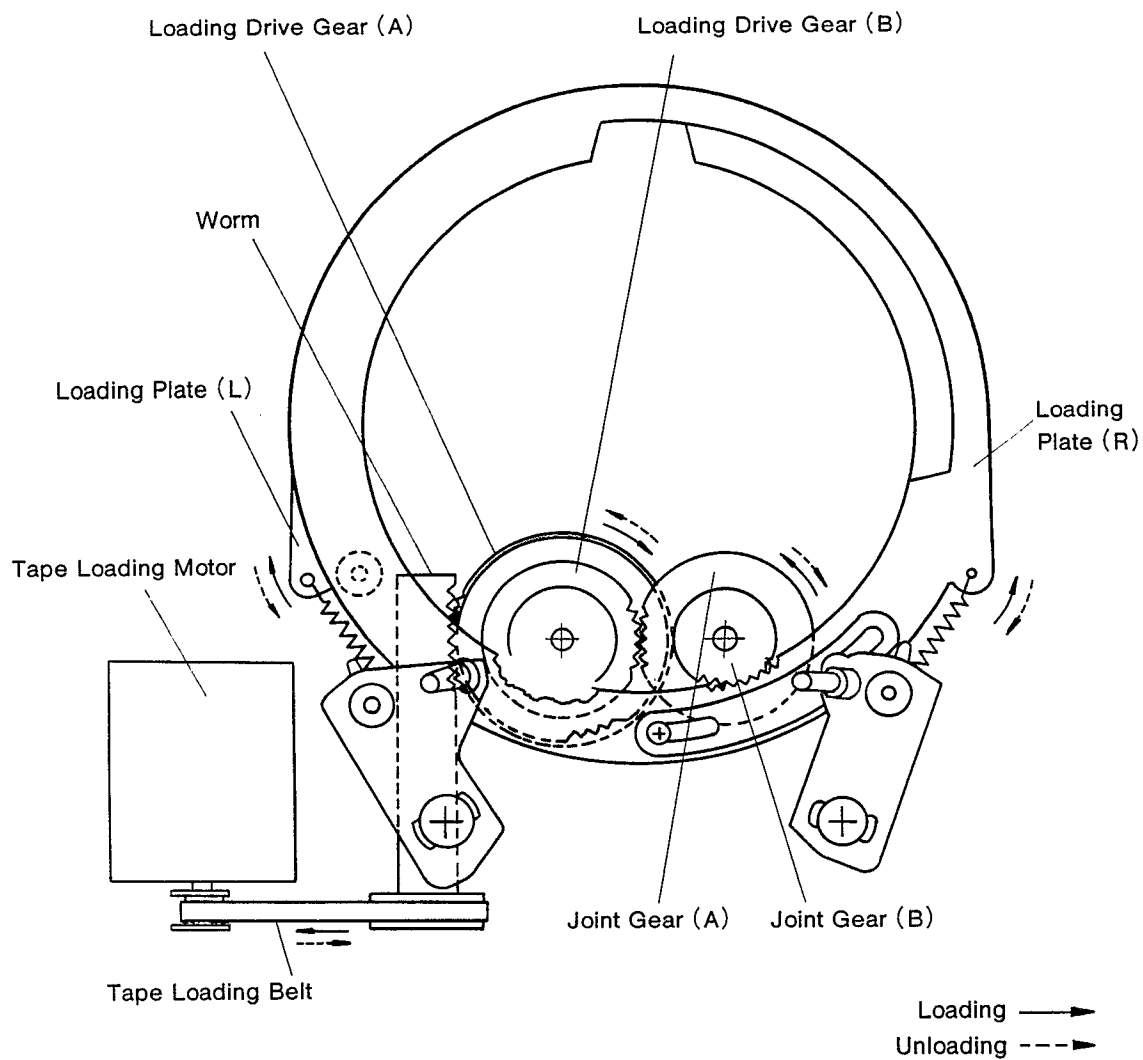

Fig. 4 Loading Plate Mechanism
1. Drives the loading plate (Fig. 4)